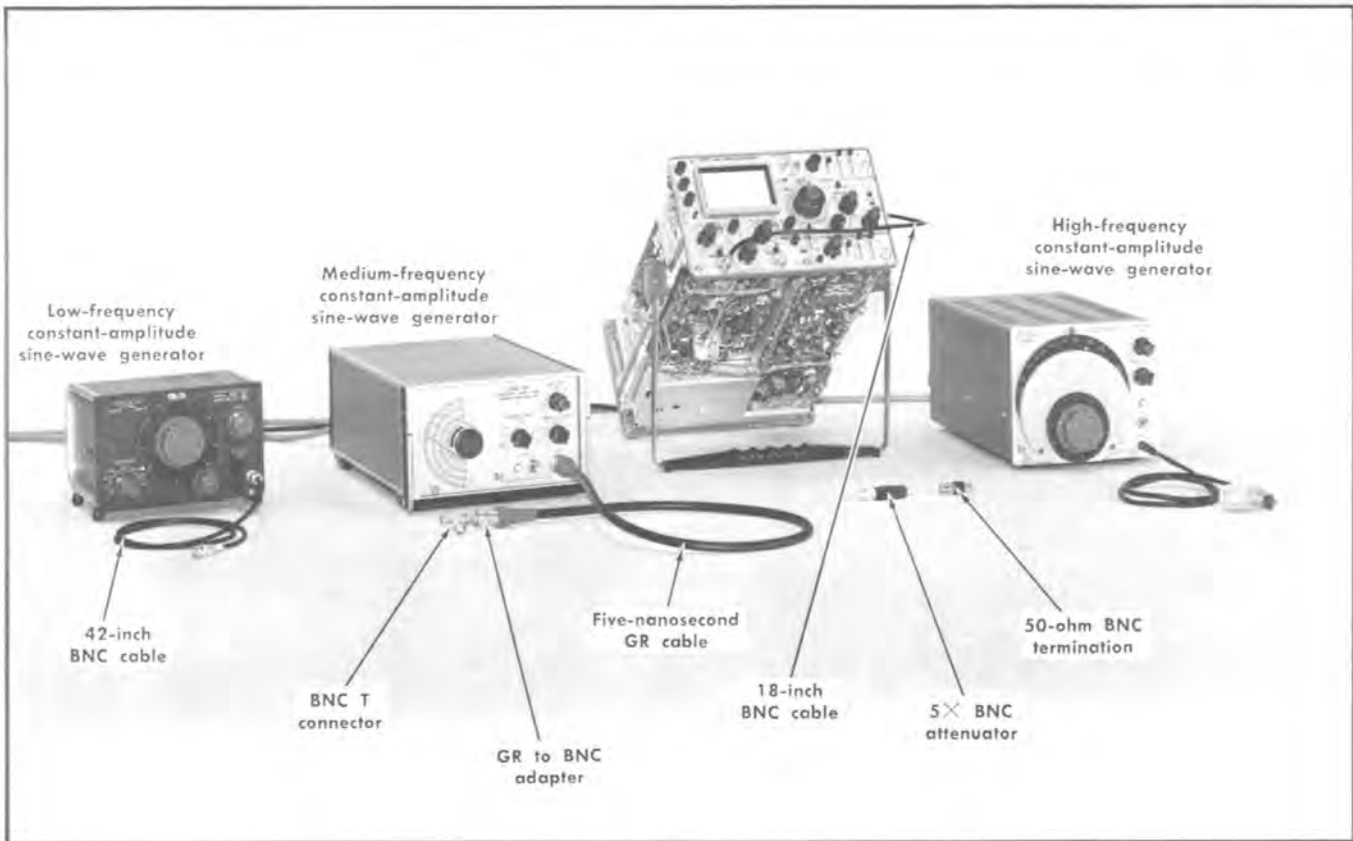

Fig. 6-33. Initial test equipment setup for steps 39 through 50.
- a. Test equipment setup is shown in Fig. 6-33.